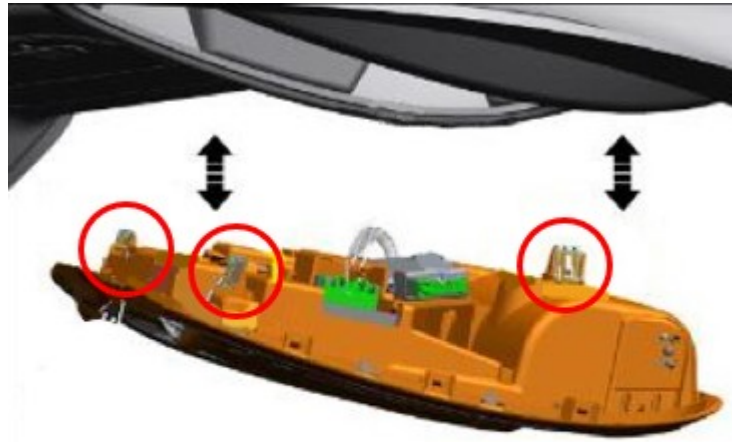

Fig. 3
- 2. Use a trim stick at the locations of the 3 metal clips to release the console from the roof structure (Fig. 3) .